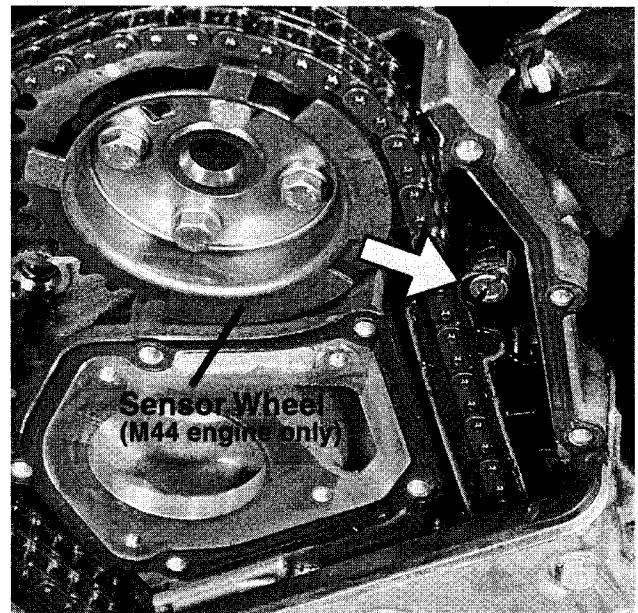

Fig. 14. Chain guide and guide adjusting sleeve (arrow). Allen-head retaining screw has been removed. Use slotted screwdriver to loosen adjusting sleeve.
30. Remove upper bolt from left chain guide. Loosen chain guide adjusting sleeve approximately two turns. See Fig. 14.
10. Turn left chain guide adjusting sleeve in until it just contacts the cylinder head (See Fig. 14.). Insert chain guide retaining screw and tighten.